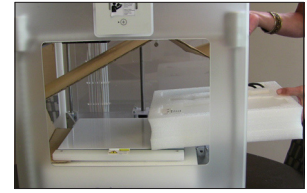

Fig. 7
7. Lift the cardboard piece from the foam package and remove the foam package. This package includes your power cord, Cube Stick glue and the jet wiper. (Fig. 7)